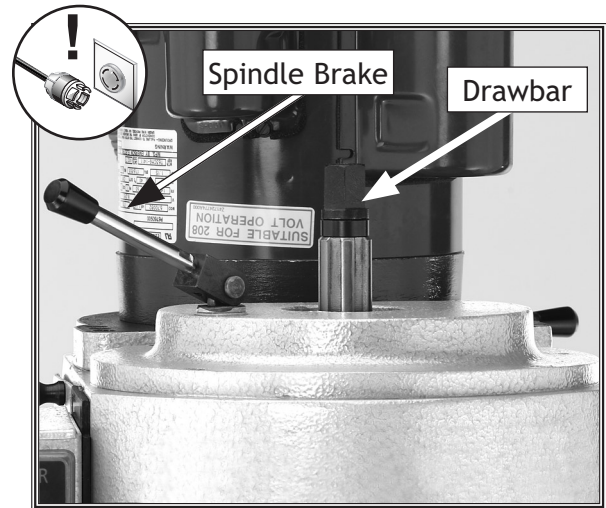

Figure 31. Drawbar location.
5. While setting the spindle brake, use a wrench to tighten the drawbar (see **Figure 31**) until the tool is secure in the spindle.